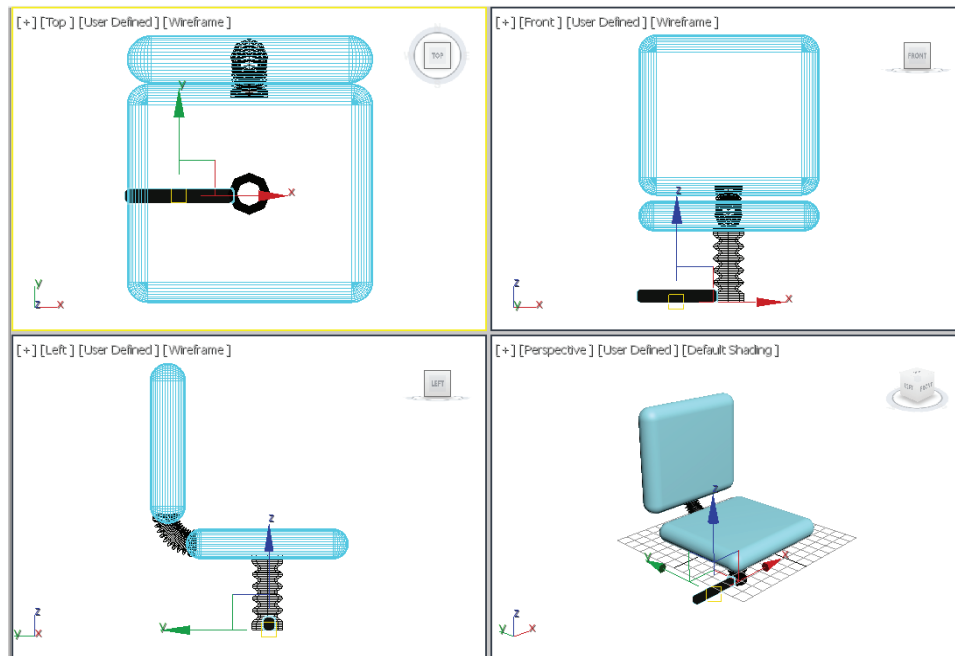

Figure 3-40 Alignment of *leg01* in the viewports
6. Choose the **Select and Move** tool and align *leg01* with *leg support* in the viewports, as shown in Figure 3-40.